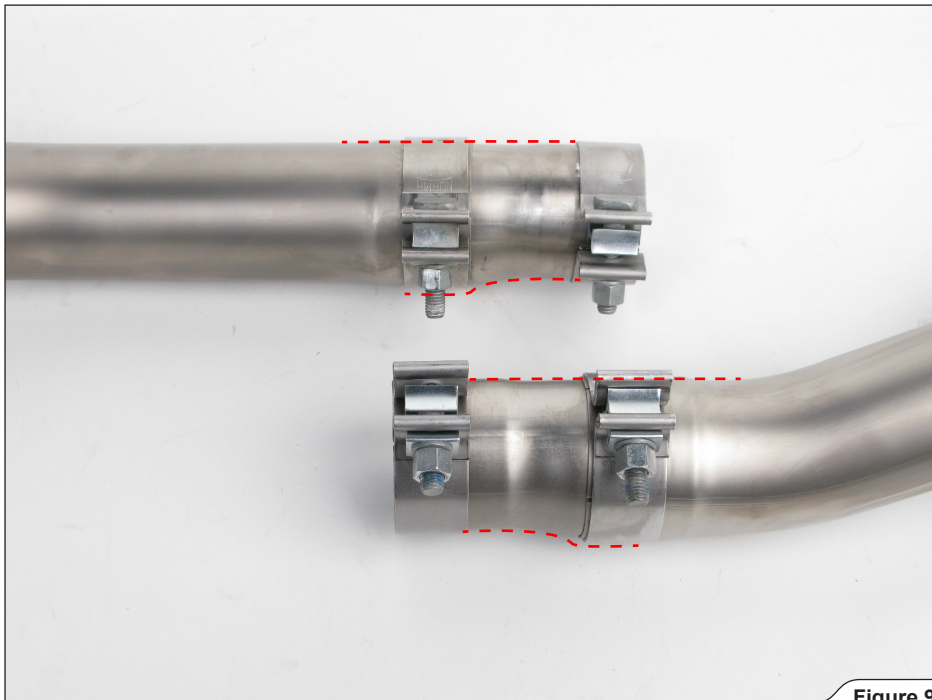

Figure 9
- ! **CAUTION:** the adapters are not symmetrical; align the flat part of the adapters with upper plane of the link pipes (**Figure 9**)!
! WARNING: only hand tighten the clamps (Figure 9)!